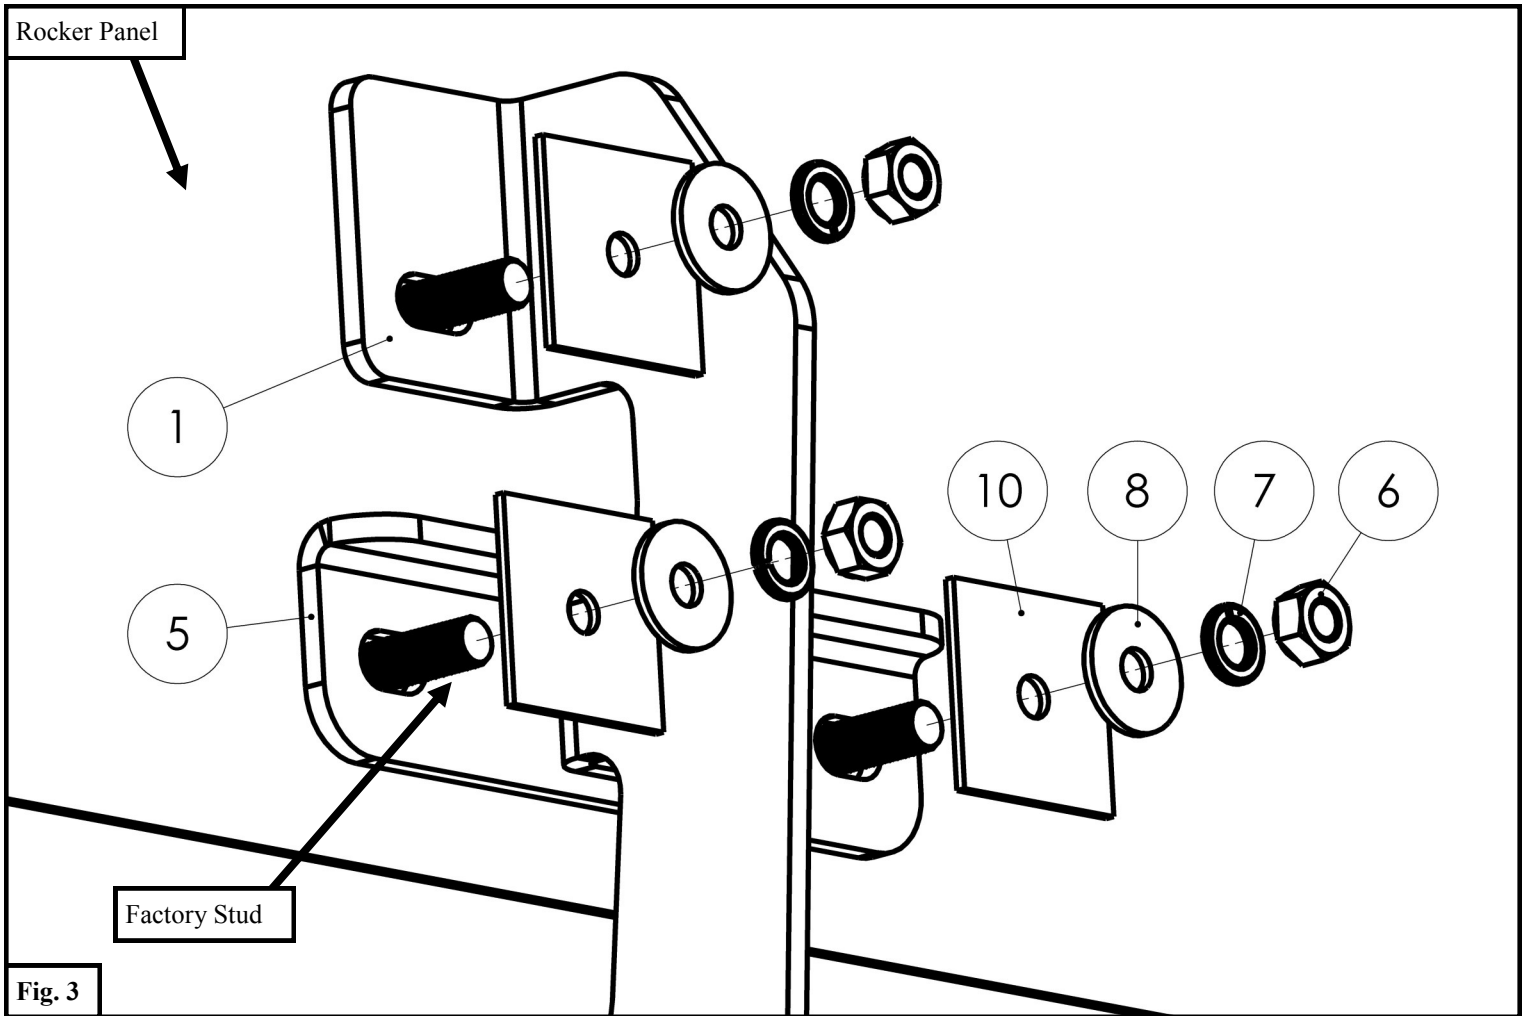

Fig. 3
- At the rear mounting location, loosely install a Mounting Bracket A (1) with preassembled Universal Bracket (5) using the supplied M8 hardware (6-8, 10). See **Figure 3**.
7. Loosely install the remaining brackets on the driver side of the vehicle using the supplied M8 hardware (6-8, 10). See **Figures 3 & 5**.
9. Slide the M8 square head bolts (12) through slots on the bottom of the running board (excluding the center slot, three bolts per slot).